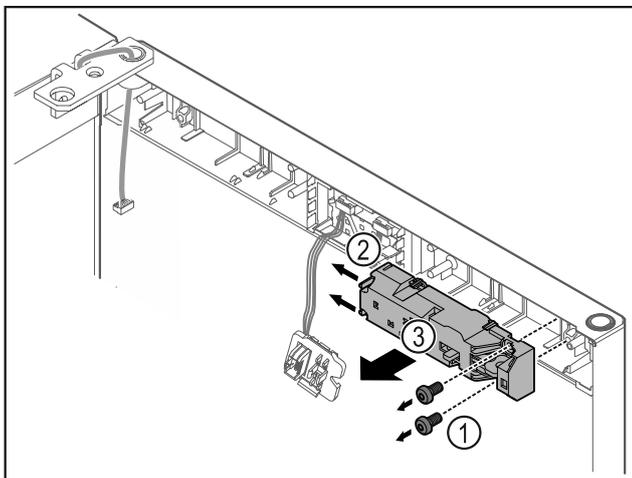

Fig. 22
- ▶ Remove the screws Fig. 22 (1).
- ▶ Press the latching lugs Fig. 22 (2) to the side and take off the remote lock Fig. 22 (3).